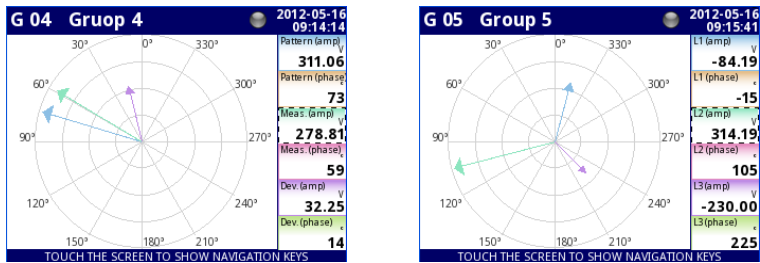

Fig. 6.9 Examples of **Phasor Charts** presentation mode
- as phasor charts **Fig. 6.9**